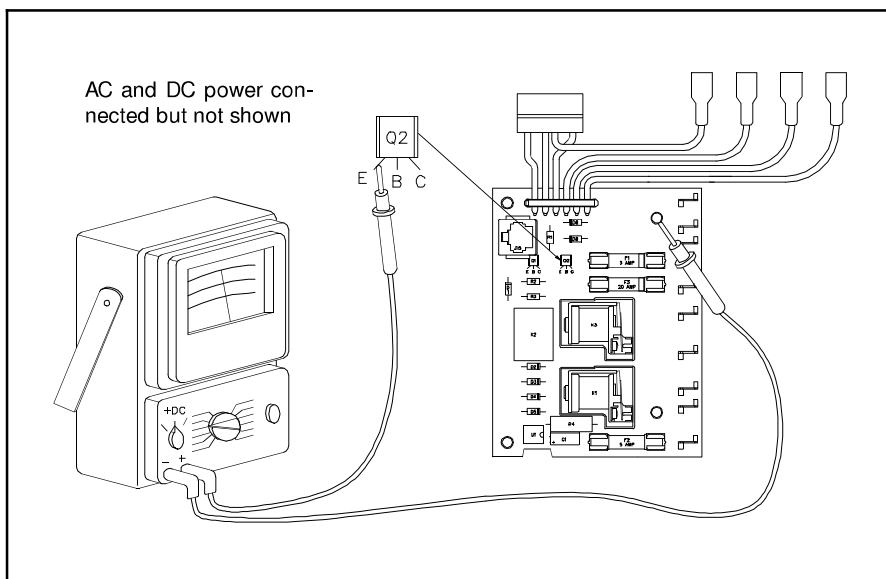

Figure 11.54 12 Volt Check at Q2 Emitter
8. With the volt-ohm-meter set to measure 12 volts DC, check for 12 volts at the emitter of transistor Q2 as shown in Figure 11.54.